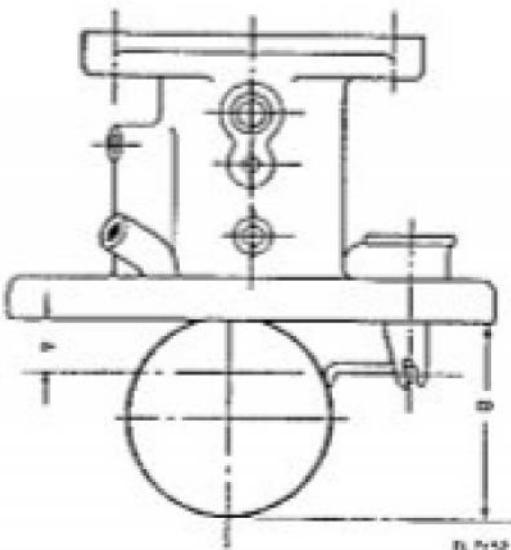

Figure 10. Carburetor fuel level and float setting dimensions (1 1/8 and 2 1/8 respectively).
(9) *Fuel level.* (a) Correct setting of the float which controls the fuel level is of utmost importance. (See fig. 10.)